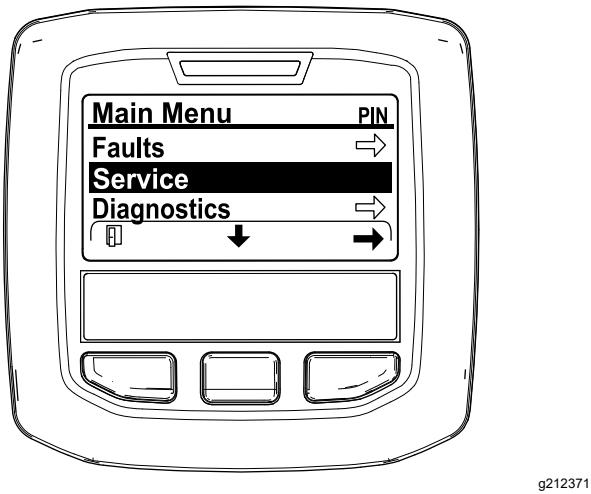

Figure 48
- Navigate to the MAIN MENU, press the center button to scroll down to the SERVICE MENU, and press the right button to select the SERVICE option (Figure 48).